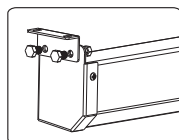

Figure 1
a.Wood wall: using a tape measure, measure the distance between the two keyholes on the casing (Figure 1) . According to the measurement, use the drill to drill identical holes of the appropriate size on the wall (use a smaller drill bit than the actual screws) and ensure that it is level (Figure 2 & 3). Screw in the appropriate screws, use Ø5×40 self-tapping screws for drywalls, leaving enough space at the end to hang the casing (Figure 4) . To ensure that the screen is level, use a level to check (Figure 5).
b.Concreted wall: using a tape measure, measure the distance between the two keyholes on the casing (Figure 1) . According to the measurement, use the drill to drill identical holes of the appropriate size on the wall (use a smaller drill bit than the actual screws) and ensure that it is level (Figure 2 & 3). Screw in the appropriate screws, use ø5 x 40 tapping screw with anchor for drywalls , leaving enough space at the end to hang the casing (Figure 4) . To ensure that the screen is level, use a level to check (Figure 5).
Using a tape measure find out the distance between the two keyholes on the casing (Figure 1). According to the measurement, use the drill to drill identical holes of the appropriate size on the ceiling and ensure that it is level (Figure 2 & 3) . Screw in the hook screws (not provided) , and lift the screen into the hook screws to hang (Figure 4). To ensure that the screen is level, use a level to check (Figure 5).